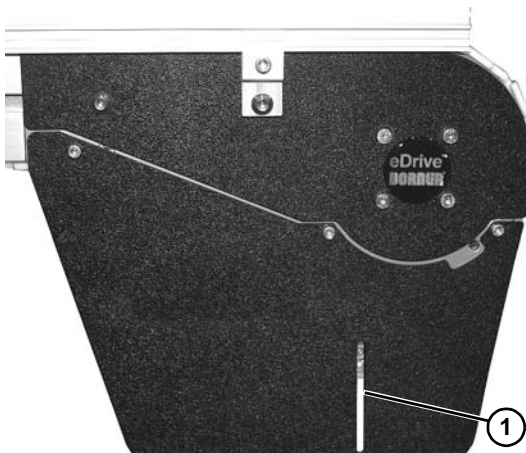

Figure 104
After shortening chain, ensure there is visible slack in chain (while running) at catenary drive tails. If chain is not visible in cover slot (Figure 104, item 1) inspect from end.